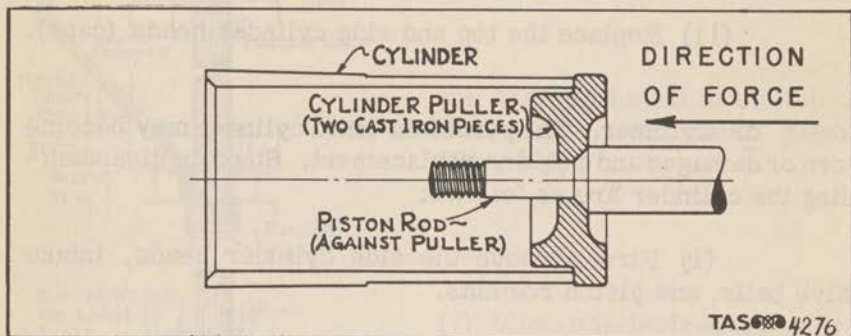

Figure 265. Cylinder Puller.
(5) Insert the two-piece cylinder puller, made of cast iron and provided for this purpose, in the cylinder shell. (It fits over the small section of the piston rod in front of the shoulders, as shown in figures 265, 266, and 267.)